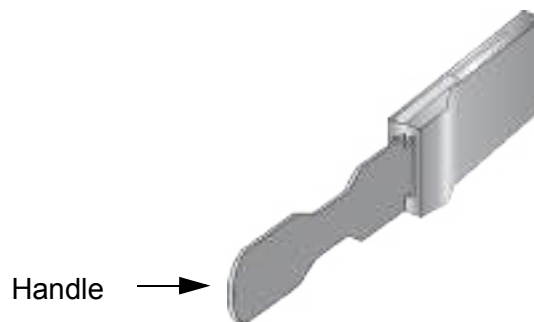

Figure 114. Handle on 100Gbps Transceivers for XEM2-1CQ Line Cards
- ❑ 100Gbps transceivers for XEM2-1CQ Line Cards have handles. Use the handles when installing or removing transceivers. An example is shown in Figure 114.